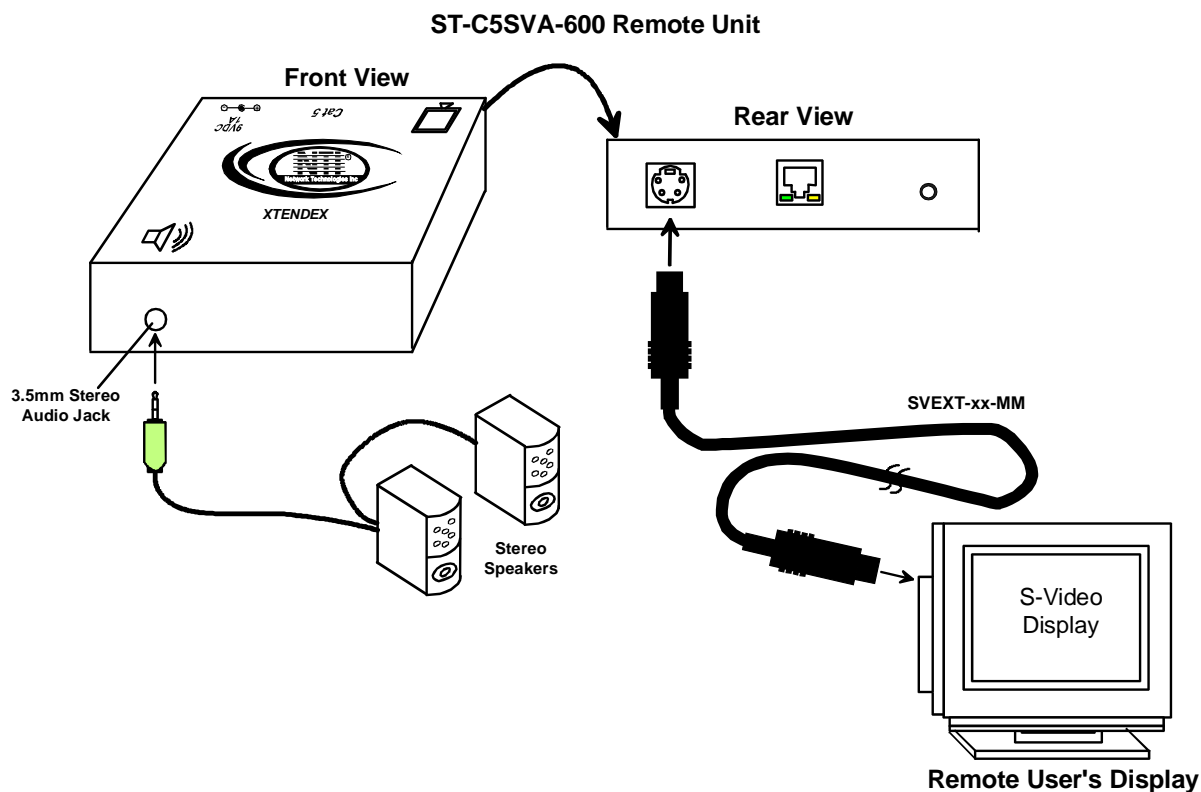

Figure 10- Connect components to an S-Video Remote Unit
4. If the Remote Unit has audio support, connect the speakers to the 3.5mm jack on the Remote Unit (see Fig. 10).